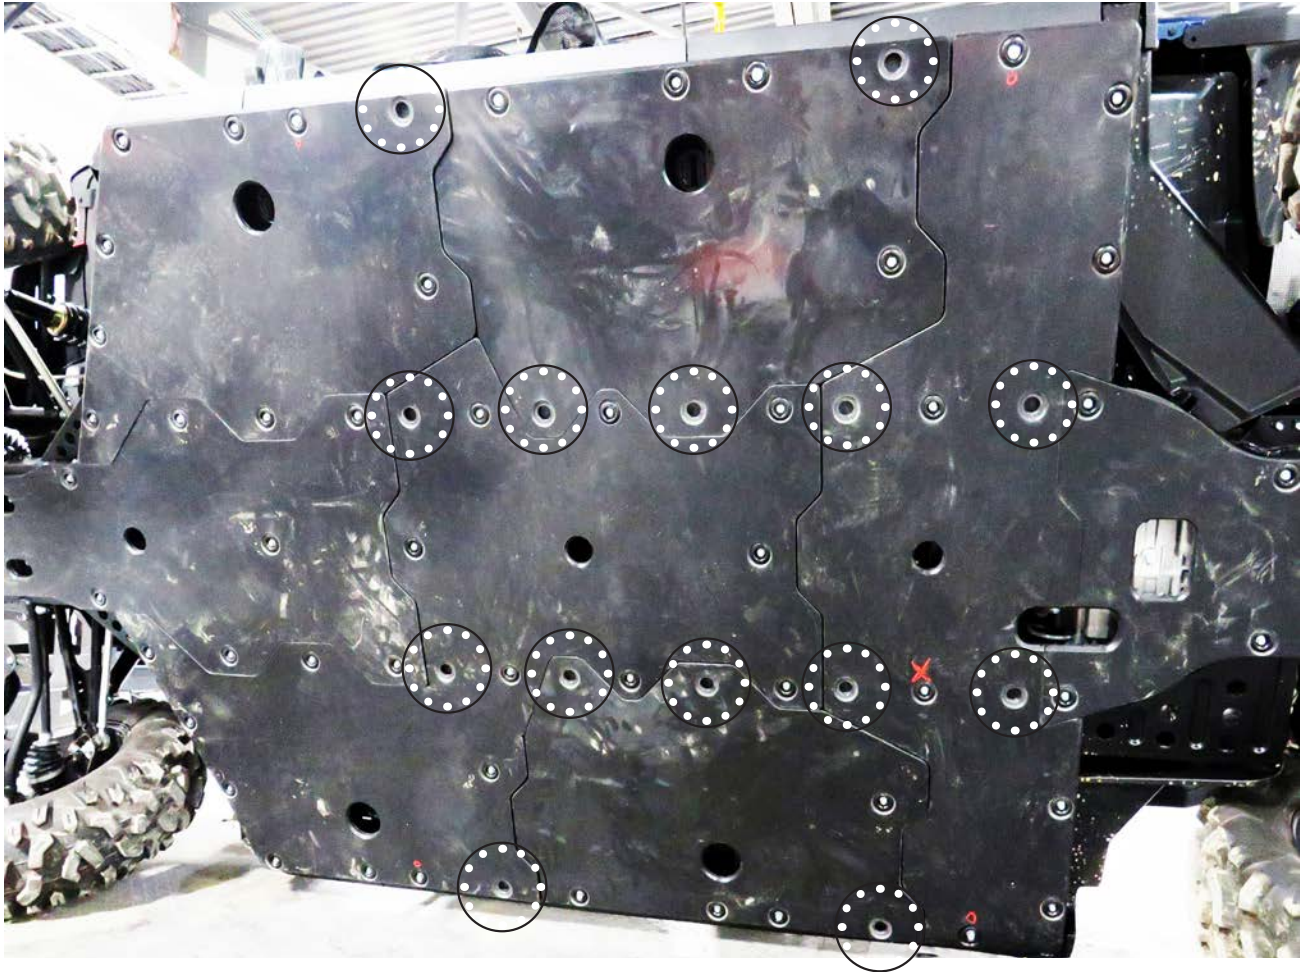

Fig.8a
8. The last thing to do is drill out the remaining hole locations to use the **1/4-20x1" Self-Tap Bolts** and **Bowl Washers**. To do this, you will need to **Drill** out the **Remaining Hole Locations** shown below in **Fig.8a** by first using the **5.5mm Drill Bit** provided in your kit to drill the holes. To center your drilled hole, place a **Bowl Washer** into the hole location and use the center hole to mark or start your drill thru, then drill thru at that spot.